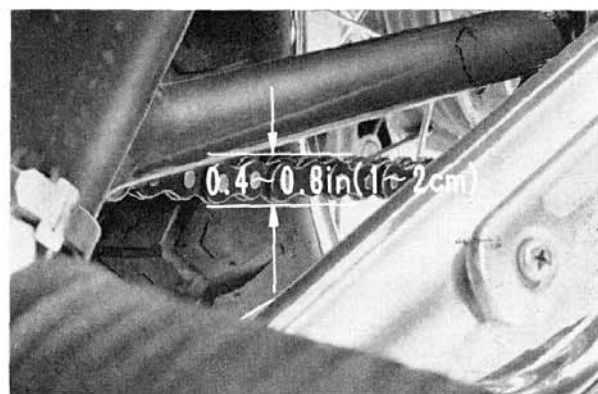

Fig. 13-21
6. Adjust the drive chain tension with the adjuster bolt so that there is a slack of **0.40 to 0.80 in. (10~20 mm)**, at the center of the chain. After completing the adjustment tighten the axle nut and lock with a cotter pin. (Fig. 13-21)